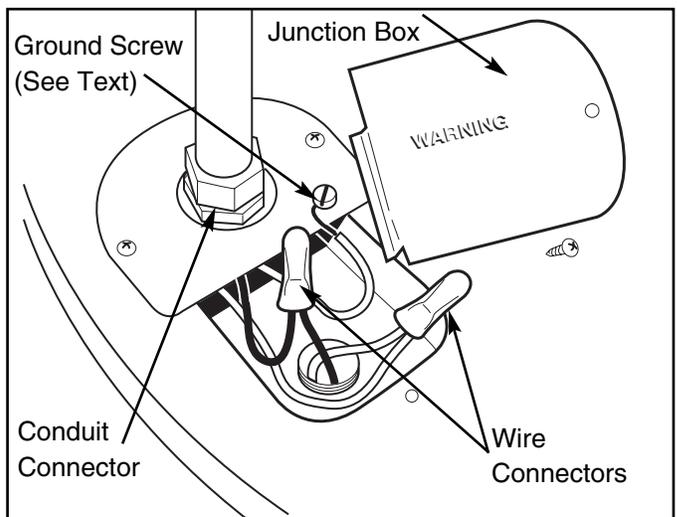

Figure 3. — Water Heater Junction Box.
electrical fitting is provided for field wiring connections. (Refer to Fig. 3)
- Non-metallic sheathed cable or metallic conduit or metallic sheathed cable not approved for use as a ground conductor shall include a separate conductor for grounding. It should be attached to the ground terminals of the water heater and the electrical distribution box. (Refer to Fig. 3)